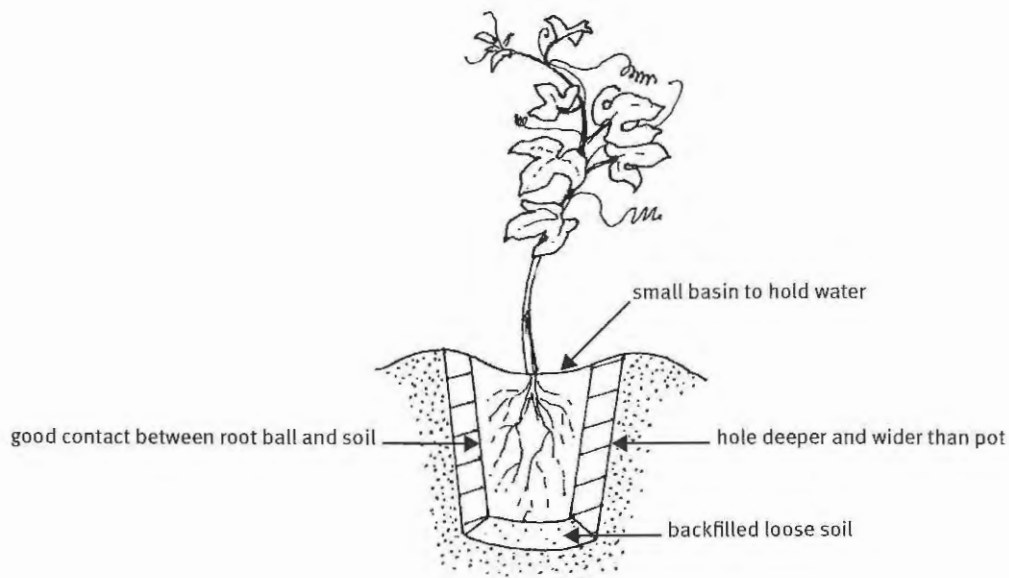

Figure 7.6 A correctly planted vine
4. Firm the soil down gently with your hands (not your feet) and leave a basin around the vine to hold water (see Figure 7.6). Water the vine again.